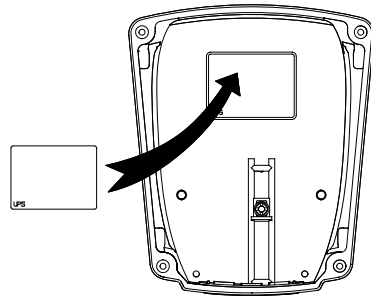

Fig. 3
5. Replace the wiring diagram in the terminal box cover by the diagram supplied with the module, see fig. 3.